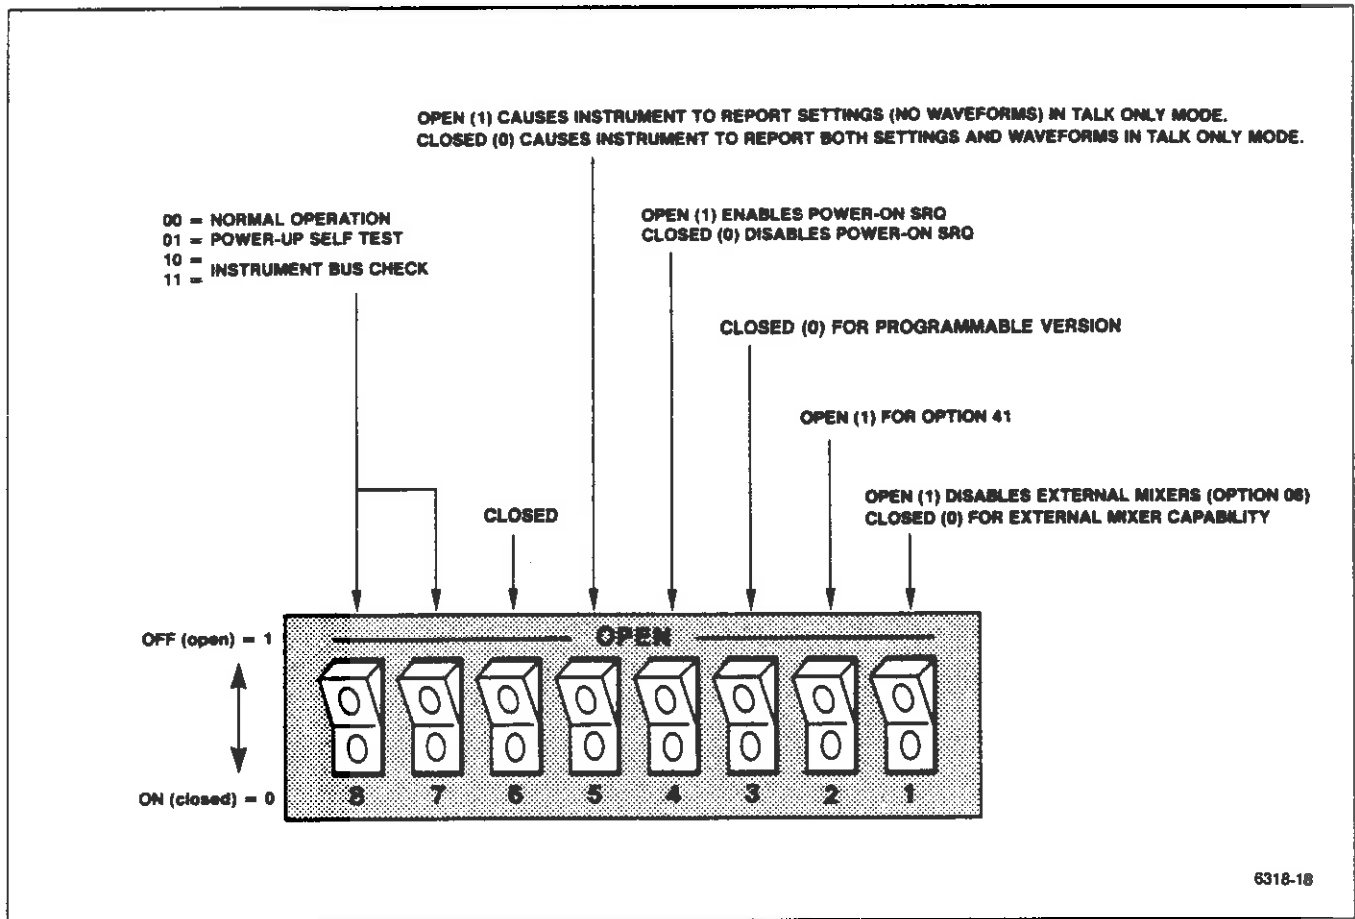

Figure 7-33. Options switch bank on the Memory board.
**Options.** The Options Switch settings tell the microcomputer which instrument options are installed so that the appropriate firmware is used. It also enables diagnostic checks and allows reporting of settings over the GPIB in Talk Only mode. Figure 7-33 shows the switch settings. See the Maintenance section for more information about using the switches.